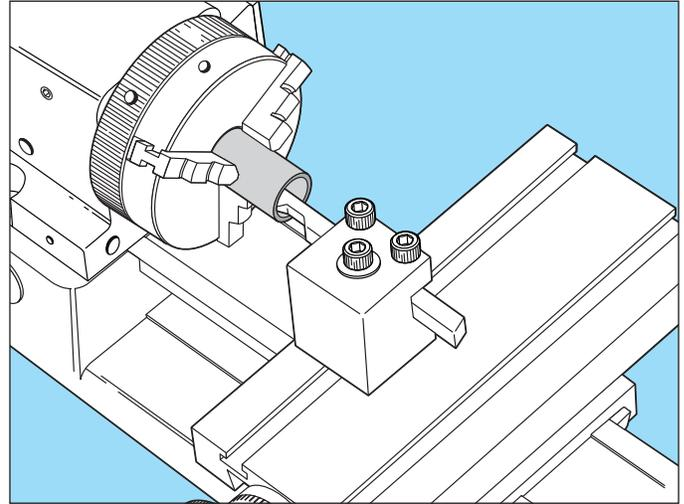

FIGURE 43—A boring tool in use on the lathe
**Boring Tool**—A boring tool is used in the tool post on a lathe or in an off-settable boring head on a mill to enlarge holes in a work piece (see Figures 43 [lathe] and 60 [mill]).
The use of this tool requires the existence of a drilled or cored hole, or it may be used to enlarge the bore of a tube. The work must be mounted in a chuck or on a faceplate and the boring tool set as shown in Figure 43. Note the clearance behind the